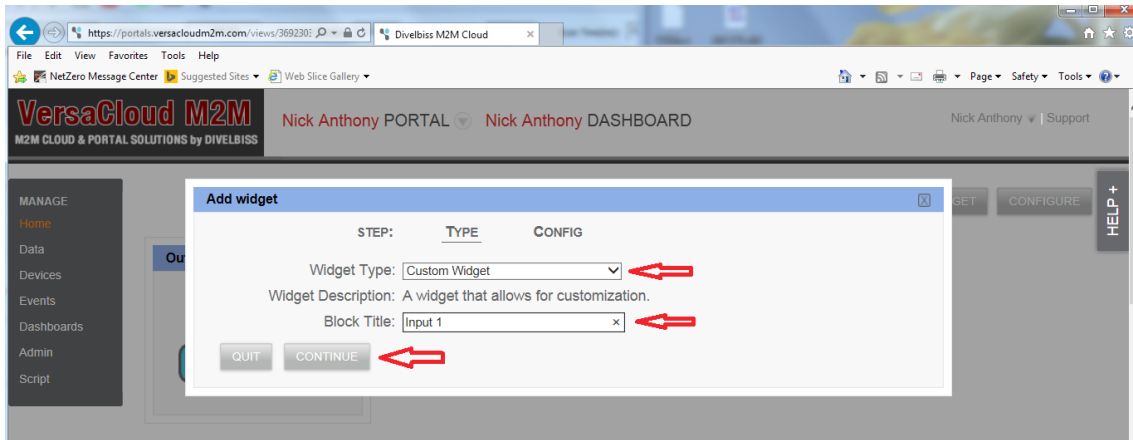

Figure 19 - Add Widget - Type
5. With a widget added for Output1, one must be added to monitor / read a input value. As before, from the HOME page, click the **Add Widget** button. Refer to Figure 19. In this dialog, select the type of widget to add (Widget Type). For this application note, select the *Custom Widget*. Enter the title for the widget (Block Title). The title can be anything, but should be descriptive for the widget and data point it will represent. Click the **Continue** button. The Add Widget - Config dialog will open.